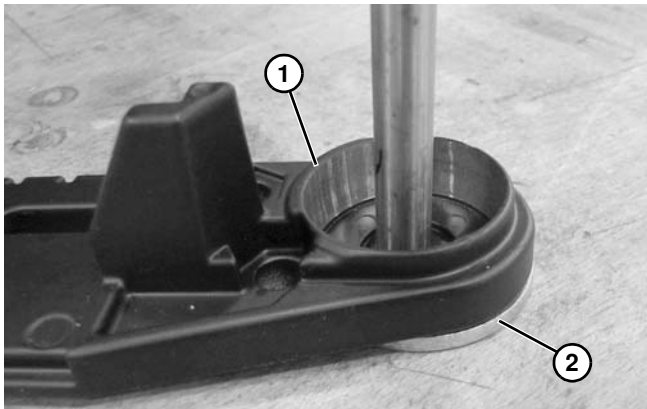

Figure 90
2. Set tail plate (**Figure 90, item 1**) flat side down over washer (**Figure 90, item 2**) or hole in workbench that has a minimum diameter of 5/8".